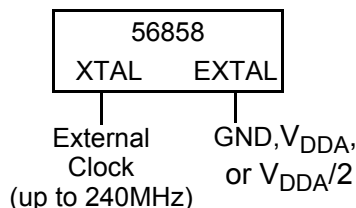

Figure 4-7 Connecting a High Speed External Clock Signal using XTAL
The recommended method of connecting an external clock is given in Figure 4-7. The external clock source is connected to XTAL and the EXTAL pin is held at ground, V_{DDA} , or $V_{DDA}/2$. The TOD_SEL bit in CGM must be set to 0.
- See Figure 4-7 for details on using the recommended connection of an external clock driver.